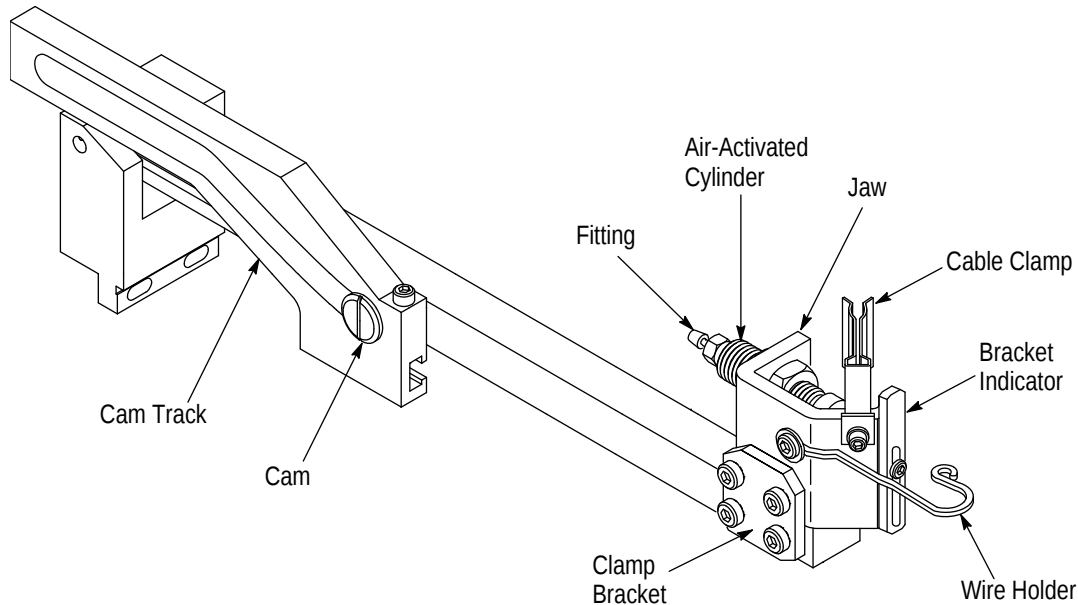
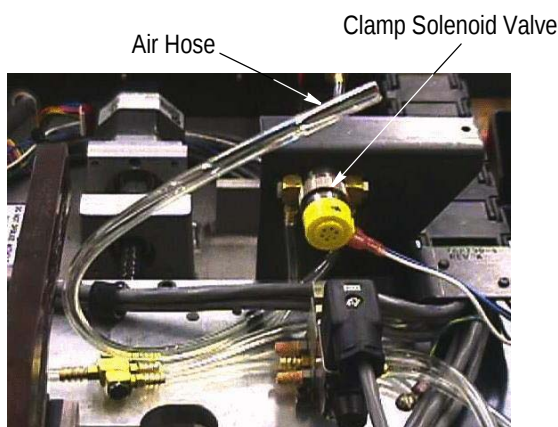

Figure 1
Figure 4
The 180° Cable Clamp Assembly 1424035-1 is designed to be used in CHAMPOMATOR* 2.5 Bench Terminating Machine 762734-[]]. The machine must be equipped with a clamp solenoid valve (shown in Figure 4) and a controller having software at Rev. 3.03.05 or later. To use the machine without these requirements, use 180° Cable Clamp Assembly 768830-1 and follow the instructions packaged with that cable clamp.
2. DESCRIPTION (Figure 1)
7. On the machine, plug the air hose from the clamp solenoid valve (see Figure 4) onto the fitting of the cable clamp (refer to Figure 1).